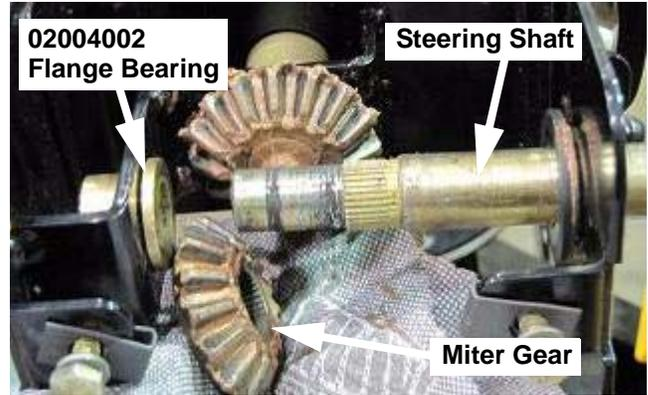

FIGURE 5
6. Pull the steering wheel with steering shaft from the **02004002** flange bearing and miter gear. See Figure 5.